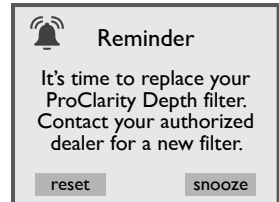

Figure 12.6j
4. When the timer expires, a message will appear on the control panel display, Figure 12.6j. Follow the previous instructions to reset the timer. The filter must be replaced. Refer to Section 13.1, page 61, for filter location. If you tap “snooze” the message will clear but the error icon will display and the reminder screen will reappear in 10 days.